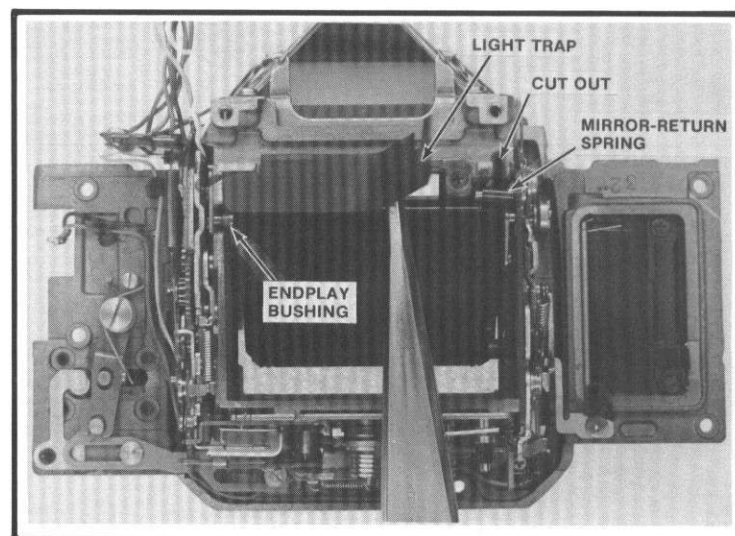

Figure 51
1. Peel back the cemented light trap at the back of the mirror housing to reach the mirror-return spring, Fig. 51.
2. The short end of the mirror-return spring hooks under the lip of the mirror housing, Fig. 51; the long end hooks to a post at the front of the mirror bracket. Disconnect the short end of the mirror-return spring by working through the cutout in the mirror housing, Fig. 51. Move the short end toward the cutout. Then allow the short end to pass through the cutout to the back of the mirror housing.
5. Lift out the mirror and the mirror-return spring. Watch for the loose endplay bushing on the mirror pivot, Fig. 51.
1. Seat the endplay bushing over the mirror pivot, Fig. 51. Then seat the mirror.
4. Position the mirror-return spring below the cutout at the back of the mirror housing, Fig. 51. The short end of the mirror-return spring goes toward the mirror mechanism.